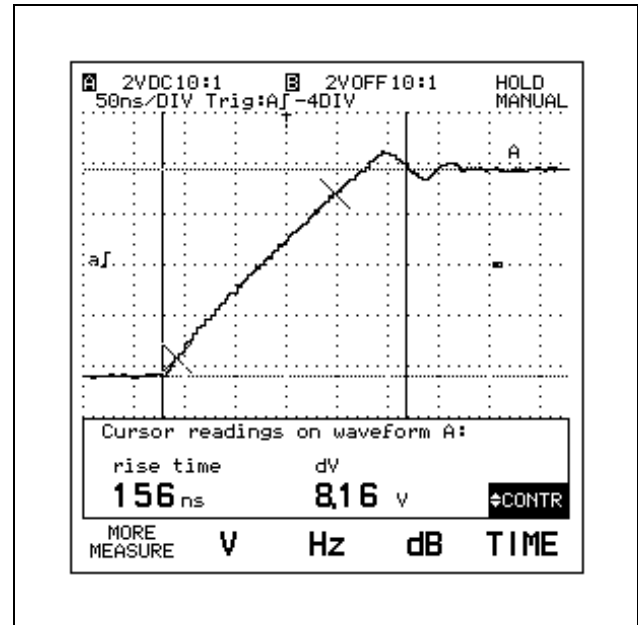

Figure 7-14 Rise Time Measurement (with markers)
- ⑦  Set the left cursor to the low level of the waveform: see Figure 7-14. This is the 0% reference point.
- ⑧  Set the right cursor to the high level of the waveform: see Figure 7-14. This is the 100% reference point.
- ⑨ The test tool instantly displays the rise time: "156 ns". (See Figure 7-14.)